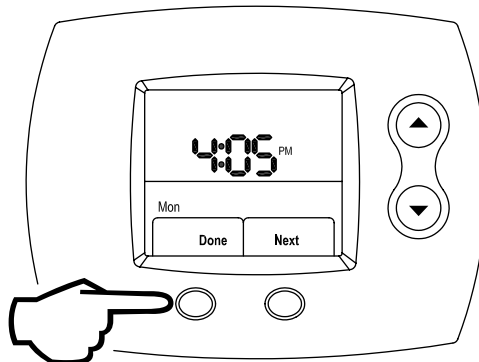

Figure 117
Step 9: Press the **LEFT** (Done) button, which is shown in Figure 117. This completes the procedure for editing the Setback clock and day.